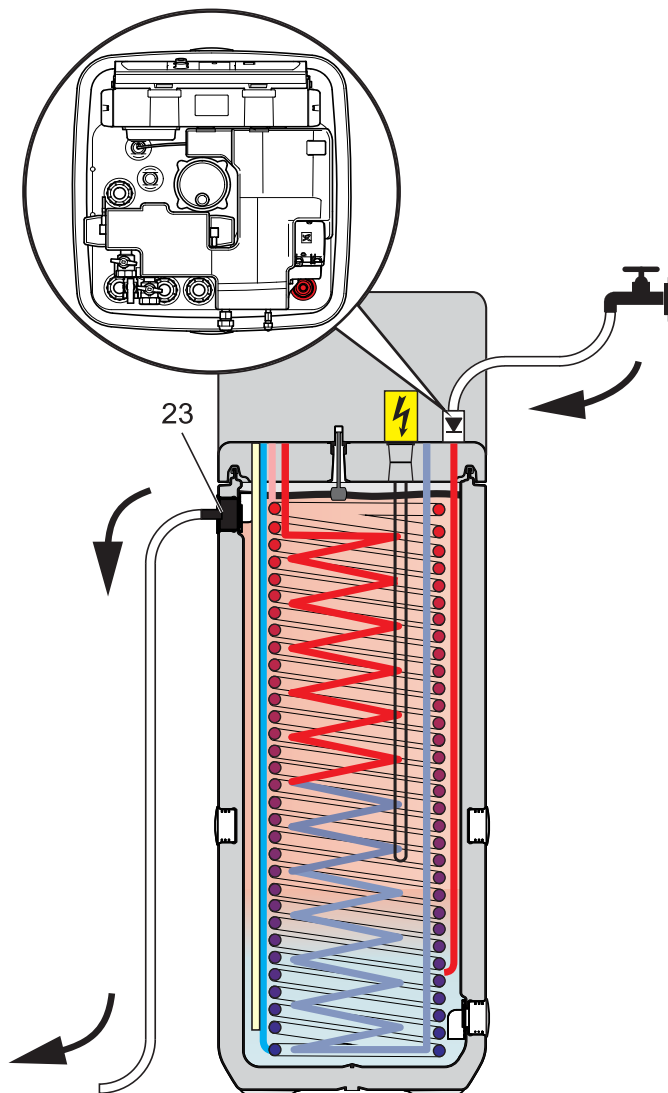

Fig. 6-2 Buffer storage filling - without solar system
- Connect the **filling hose** with backflush prevention (1/2") to the connection **"DrainBack Solar - feed"** (see figure 6-2, item 1).
- **Fill** the storage tank on the Daikin Altherma EHS(X/H) **until water comes out of the connection** (figure 6-2, item 23), that has **been connected as the safety overflow**.